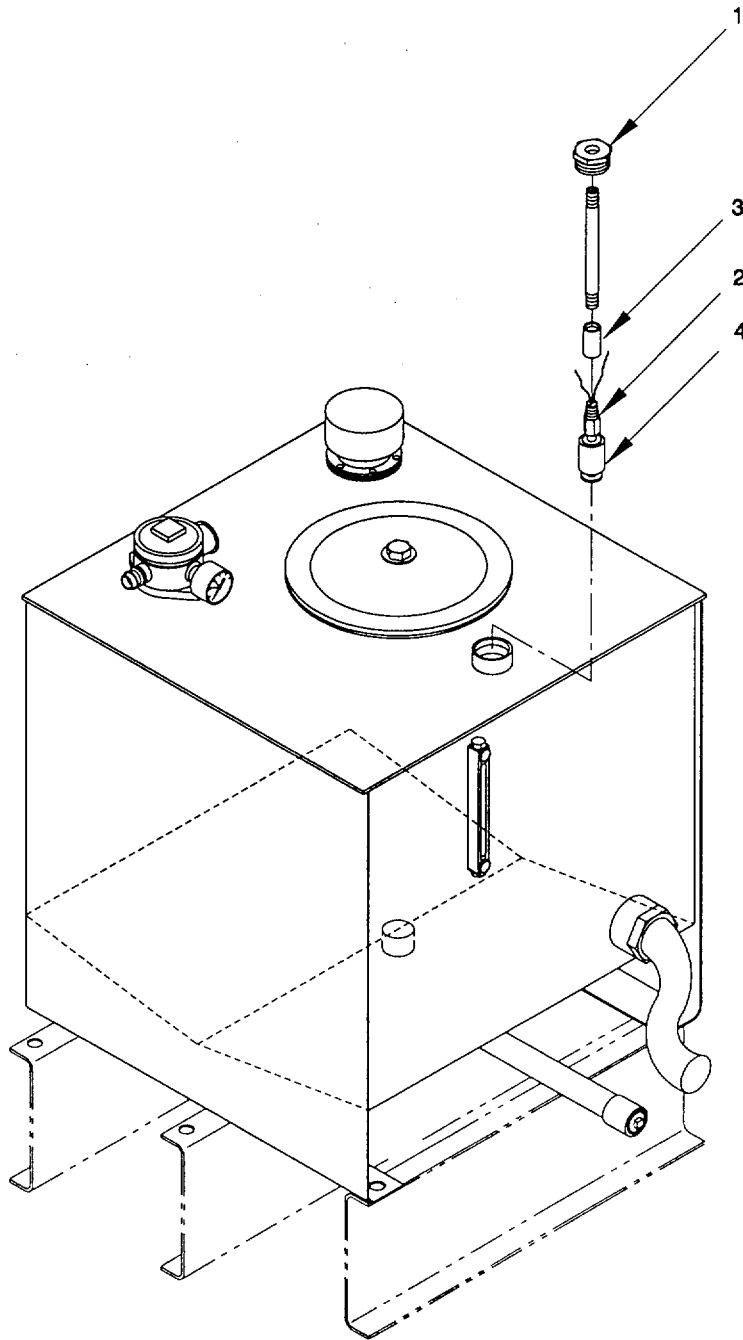

Figure 2-27. Level Sensor Subassembly, Remove/Install/Test.
- a. Remove. (figure 2-27)
- a. Remove. (figure 2-27).
- (1) Tag equipment OUT OF SERVICE.
- (2) Disconnect and tag electrical wiring to level sensor to aid in reassembly. Refer to Appendix G.
- (3) Remove adapter (1) from reservoir and lift out level sensor subassembly.
- (4) Unscrew level sensor (2) from pipe coupling (3).
2-34. Level Sensor (Cont).b. Test. (figure 2-27).
- (1) Raise sensor (2) out of tank and, with float (4) in resting position, check that light in cab illuminates to indicate a low level of hydraulic fluid. If not, check integrity of electrical connections.
- (2) Move float (4) to its upper limit of travel on the subassembly. The hydraulic fluid indicator light should go OUT in the operator's cab.
c. Install. (figure 2-27).
- (1) Replace level sensor (2) on pipe coupling (3) and tighten.
- (2) Insert level sensor (2) subassembly into position in reservoir and secure with adapter (1).
- (3) Connect electrical wiring as tagged. Refer to Appendix G.
- (4) Test per step (c). Remove OUT OF SERVICE tags.